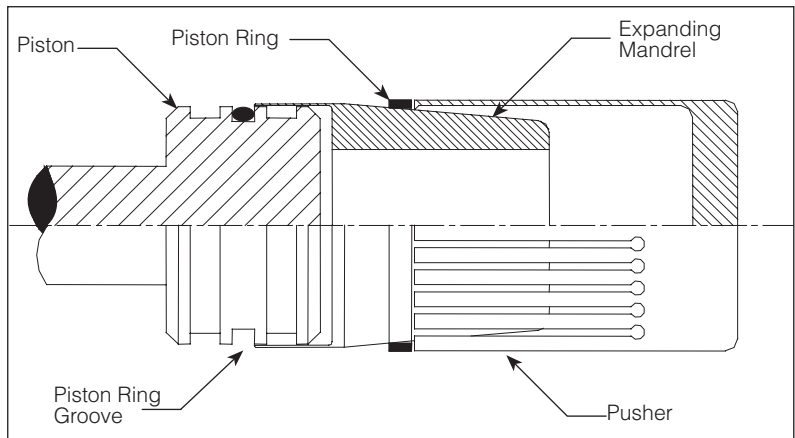

Figure 2-18. Installation of piston seal with tooling
4. Place the seal onto the expanding mandrel, and using the pusher, gently push the seal up the ramp until it snaps into place (Figure 2-18).